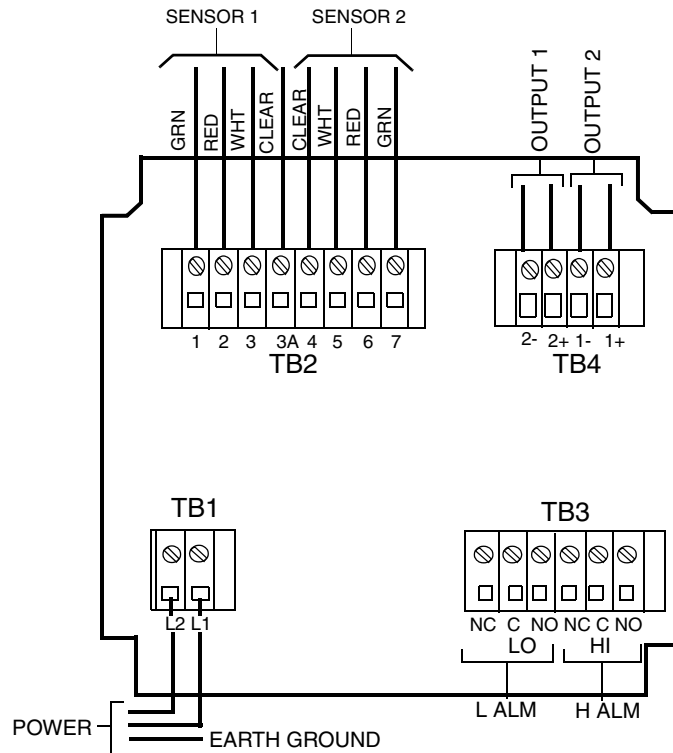

Figure 11. Metal Enclosure Rear Panel Wiring
2. Connect H and L Alarm wires to TB3 as shown in Figure 11. Failsafe operation requires connections to be made between contacts NO and C, and the alarms to configured active. Refer also to “General Information Alarms” on page 31.
4. Connect sensor wires to Analyzer terminal block TB2 as shown in Figure 11. If a single sensor is used with this Analyzer, it may be wired to either sensor input but must be configured properly. See “CELL Display and Output Configuration (CELL)” on page 28, “H Alarm Configuration (HAC)” on page 33, and “L Alarm Configuration (LAC)” on page 37.
5. Connect power wires to terminal block 1 as indicated in Figure 11. The earth (ground) connection from the power cord should be connected to the stud located in the bottom of the case. The stud grounds the instrument and is mandatory for safe operation.